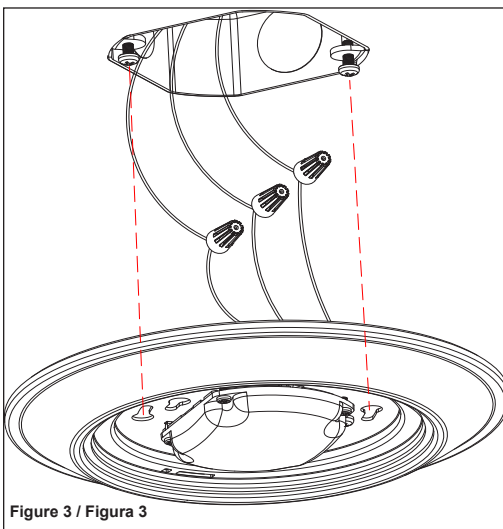

Figure 3 / Figura 3
3. Connect fixture Black wire to Hot line, White wire to Neutral, and Cooper wire to Ground with the supplied wire nuts. Align fixture keyhole slot with the installed screws on junction box, push wires into junction box and avoid pinching any wires. Rotate the fixture to lock in place, then secure the fixture by tightening the screws. (see Figure 3)